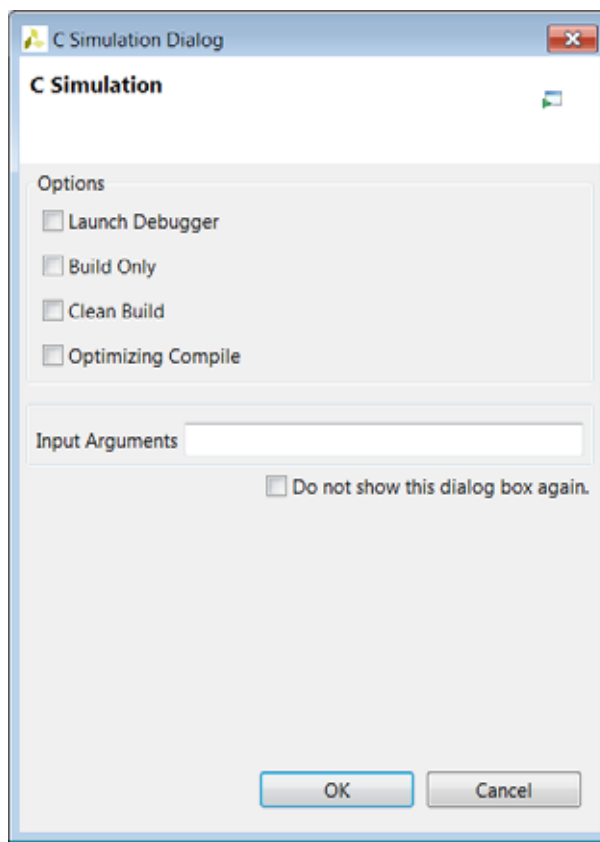

Figure 3-5: Run C Simulation Dialog Box
2. Click the **Run C Simulation** toolbar button to open the C Simulation Dialog box, shown in Figure 3-5.